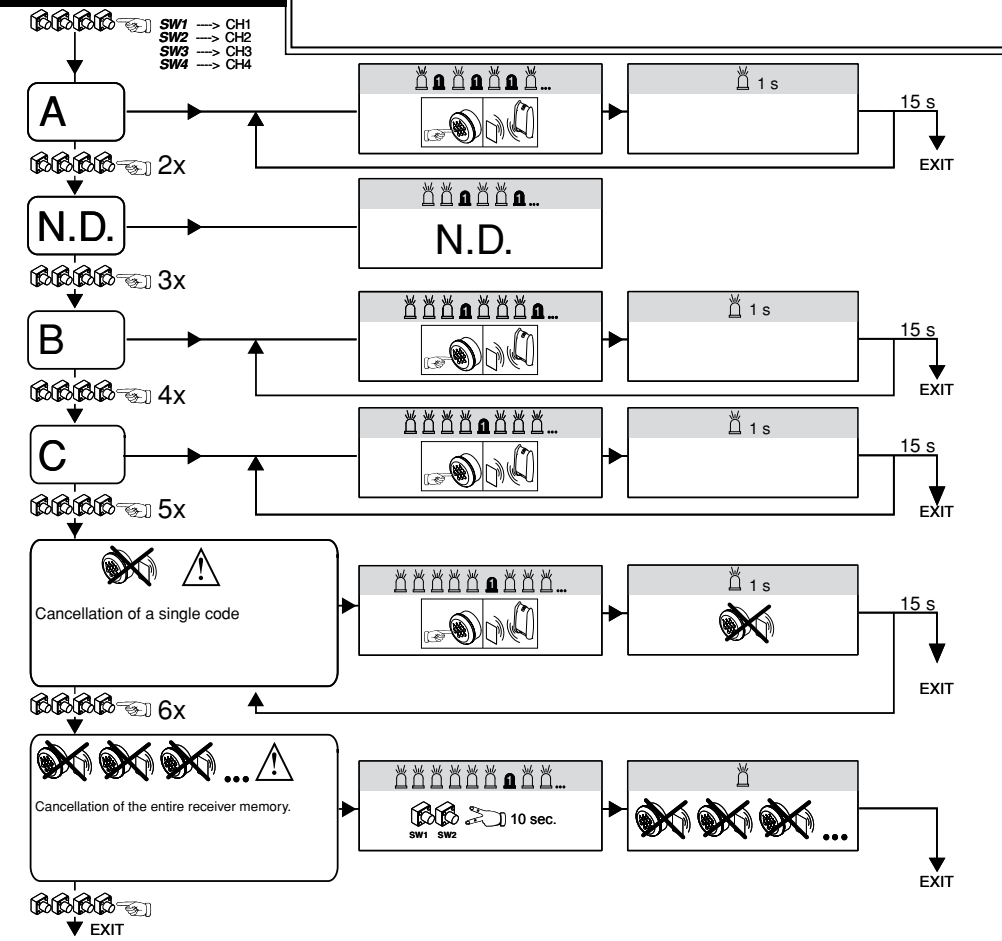

FIG.5
8) ACTIVATION TIME SETTING FOR TIMED OUT-PUT: See Fig.5.